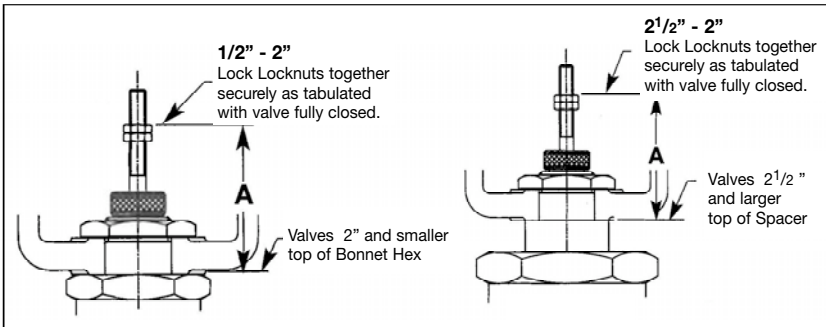

Figure 6
- C) Set the topmost locknut to the dimension shown and tabulated in Figure 6.
When setting the stem locknut dimensions the Direct-Acting valves used on Option 3 Actuators are to be set 1/4” shorter than shown in Figure 6. Reverse-Acting and three-way valves are set the same as tabulated.